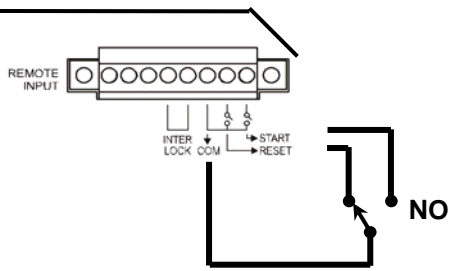

Figure 4-20
1. If users desire to single control START and STOP can refer to as this Figure 4-20 described method to connect to REMOTE position on rear panel.
2. As Figure 4-20, the main unit is under STOP status. NC point is connecting to STOP and NO point connecting to START.